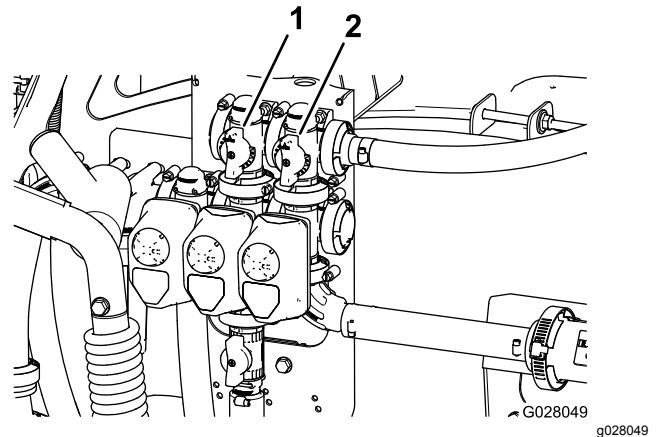

Figure 19
11. Adjust the agitation bypass valve (Figure 19) on the backside of the agitation valve until the pressure reading on the gauge is 6.9 bar (100 psi).
9. Adjust the master boom bypass handle to control the amount of agitation occurring in the tank (Figure 19).